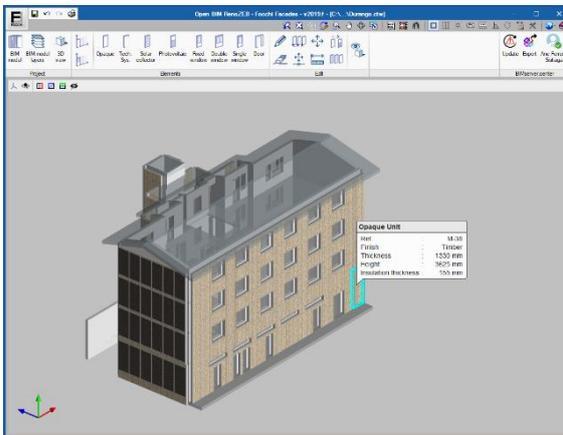

Figure 3 Open BIM RenoZEB - Focchi Facades
| Figure 3 Open BIM RenoZEB - Focchi Facades | 7 |
- **Open BIM – RenoZEB Focchi Facades** (Figure 3): the main functionality of the program is the BIM display and subsequent quartering of the facades for rehabilitation of Focchi.